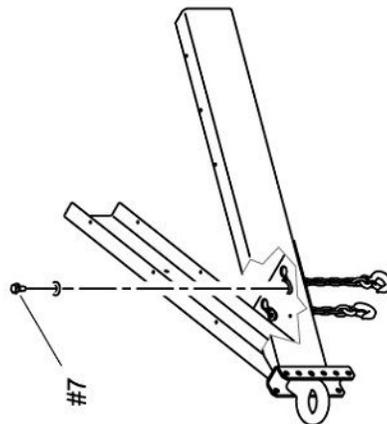

Figure 2
7. Install safety chains by sliding the second link of one chain into the slot in drawbar plate. Fasten chain to plate using tapitite and washer. Repeat for the other chain (See Figure 2).